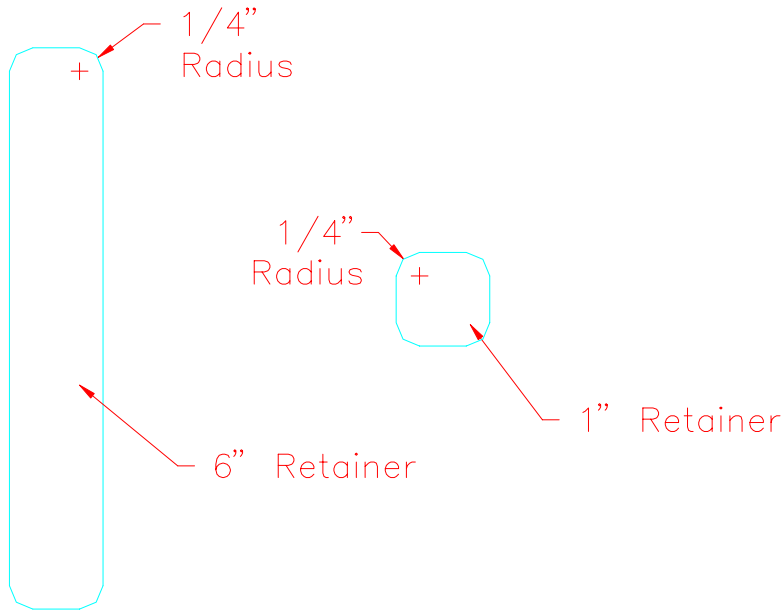

Figure 15.7.8
- 14) Sand and round corners of the parts. Figure 15.7.8.